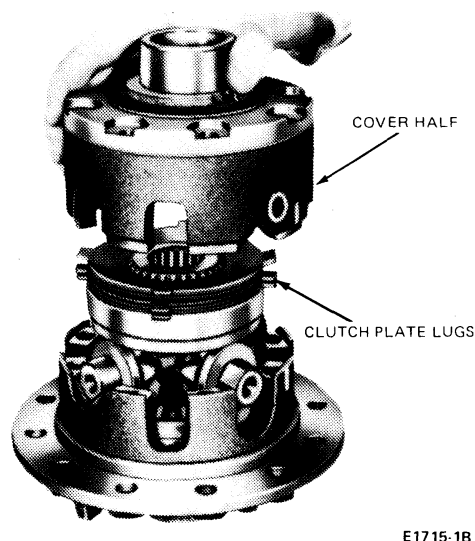

FIG. 14 Removing Cover Half of Case
3. Place the differential assembly on the bench with the ring half of the case down. Remove the case attaching bolts, and then remove the cover half of the case (Fig. 14) on Model 70 differentials.
11. Place the cover half of the case over the assembly (Fig. 14). Align the case marks made before disassembly.